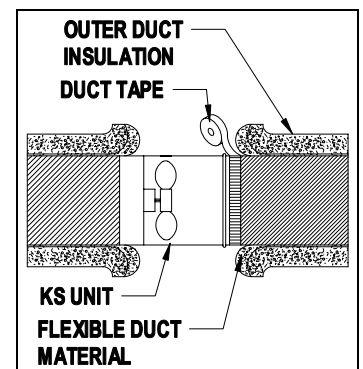

Figure 4
1. Cut and separate the flexible duct. Fold back the outer insulation on the duct to expose the flexible duct material. (See Figure 4)
2. Insert the EVENAIR® unit, with the crimped end pointing toward the problem area, into the flexible duct and secure with duct tape. (See Figure 4)